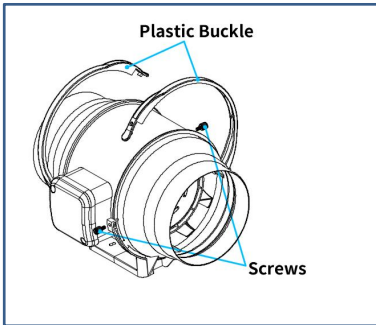

Fig.1.
- 1、 Unscrew and loosen the plastic buckle using a Phillips screwdriver See the(Fig.1.)